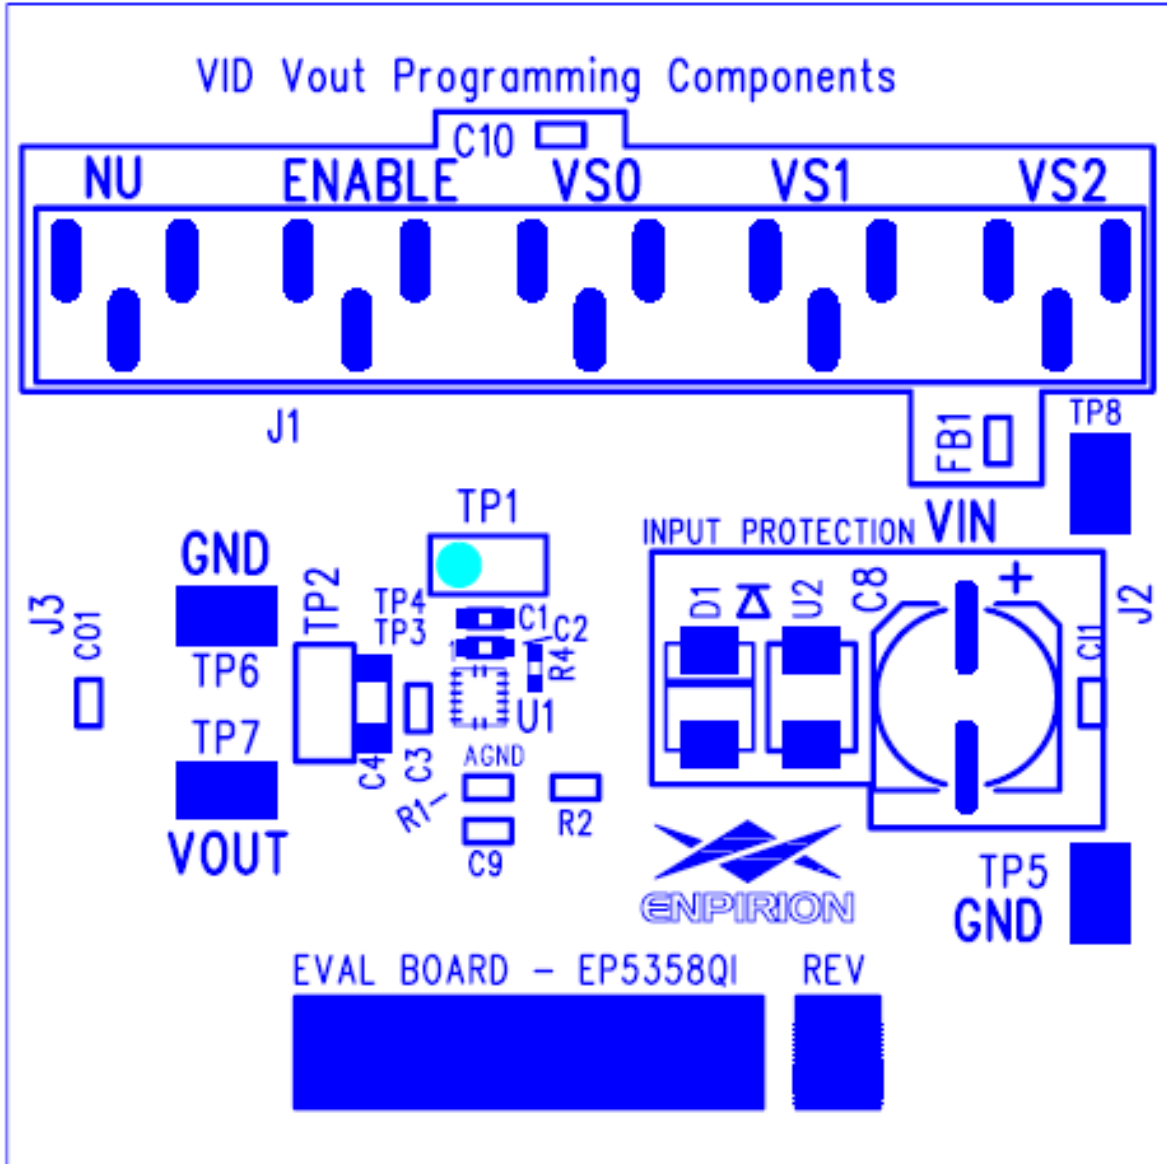

Figure 1. Evaluation Board silk screen.
This application note describes how to test the EP5358xUI (EP5358LUI, EP5358HUI) converters using the Enpirion 2.5mmx2.25mm Module EVAL BOARD shown in Fig. 1. In addition to this document you will also need the device datasheet for a thorough evaluation of the power converter module.
**STEP 2:** Connect a power supply to the input test points, TP8 (VIN) and TP5 (GND) as indicated in Figure 1. The same test points can also be used to measure the input voltage.
**STEP 4:** Connect the load to the output connectors TP7 (VOUT) and TP6 (GND), as indicated in Figure 1. The same test points are also used to measure the DC output voltage.